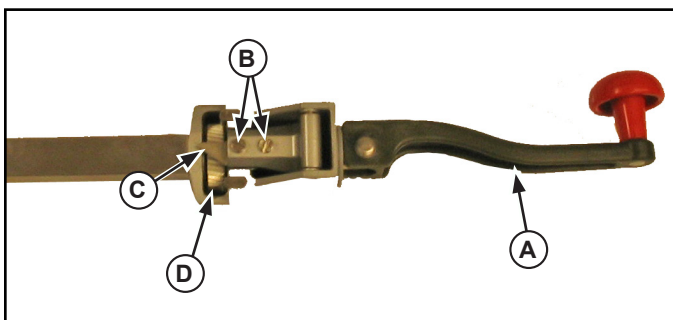

Figure 10. Blade and Gear Removal and Installation.
1. Move the handle (A) to the position shown in Figure 10.
2. Note position or direction of the blade edge. Remove the blade by loosening screws (B).
3. Discard the old blade (C) and replace with new blade.
4. Place the new blade in the correct position. Secure with the screws (B).
4. Move the handle (A) to the "UP" position. See Figure 10.
3. Move the handle (A) to the "UP" position. See Figure 10.